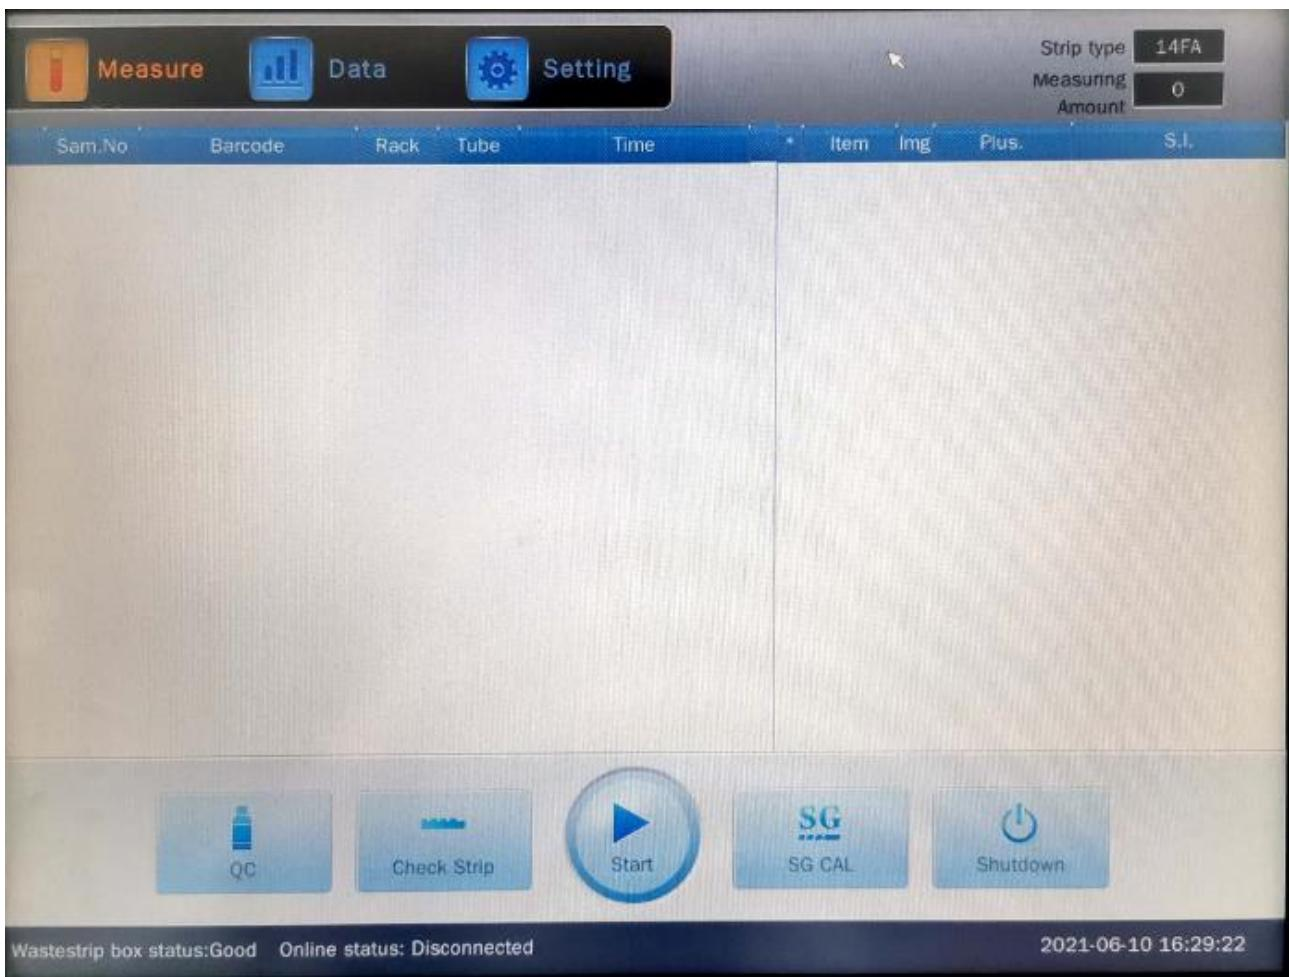

Figure 4-5
4.3.3 Measuring screen (Figure 4-5)
The Measuring screen (shown as Figure 4-5) is composed of four sections: